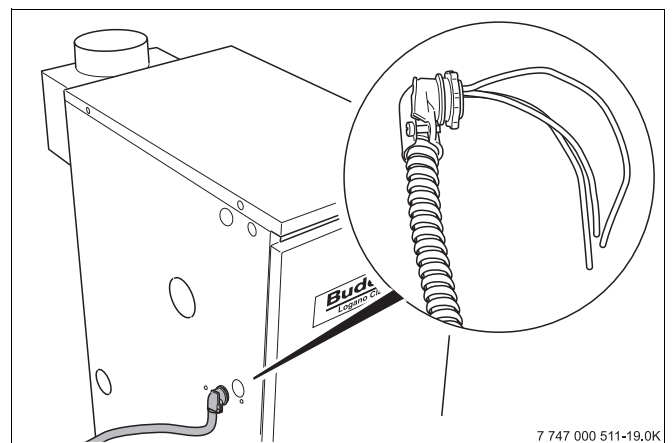

Fig. 12 Strain relief for shielded electrical wiring
- Install a metal strain relief for the incoming power line on outside of left boiler jacket panel. (→ Fig. 12).